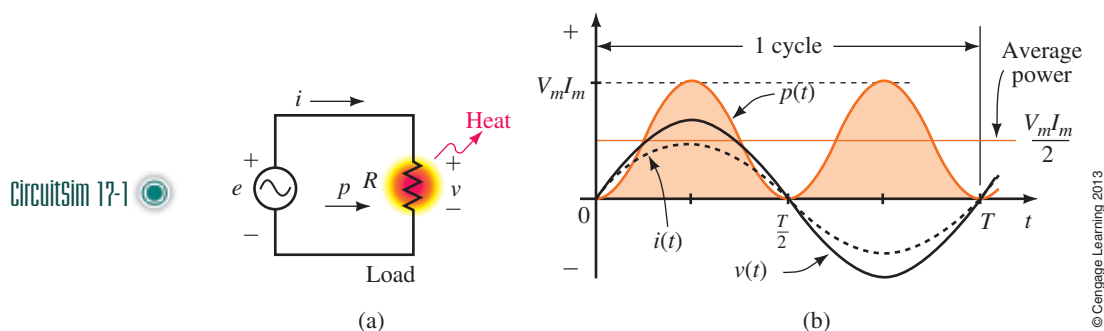

FIGURE 17-3 Power to a purely resistive load. The peak value of p is $V_m I_m$.
A sketch of p versus time is shown in Figure 17-3(b). Note that p is always positive (except where it is momentarily zero). This means that power flows only from the source to the load. Since none is ever returned, all power delivered by the source is absorbed by the load. We therefore conclude that *power to a pure resistance consists of active power only*. Note also that the frequency of the power waveform is double that of the voltage and current waveforms. (This is confirmed by the double-frequency component 2ω in Equation 17-2.)
Inspection of the power waveform of Figure 17-3 shows that its average value lies halfway between zero and its peak value of $V_m I_m$. That is,
- For a purely resistive load, v and i are in phase. Given $v = 10 \sin \omega t \text{ V}$ and $i = 5 \sin \omega t \text{ A}$. Using graph paper, carefully plot v and i at 30° intervals. Now multiply the values of v and i at these points and plot the power. [The result should look like Figure 17-3(b).]